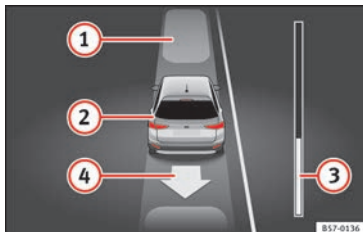

Fig. 207 On the instrument panel display: exiting a parallel parking space.
Key to the **Fig. 207**:
The progress bar » Fig. 207 ③ indicates the distance to cover » page 240.